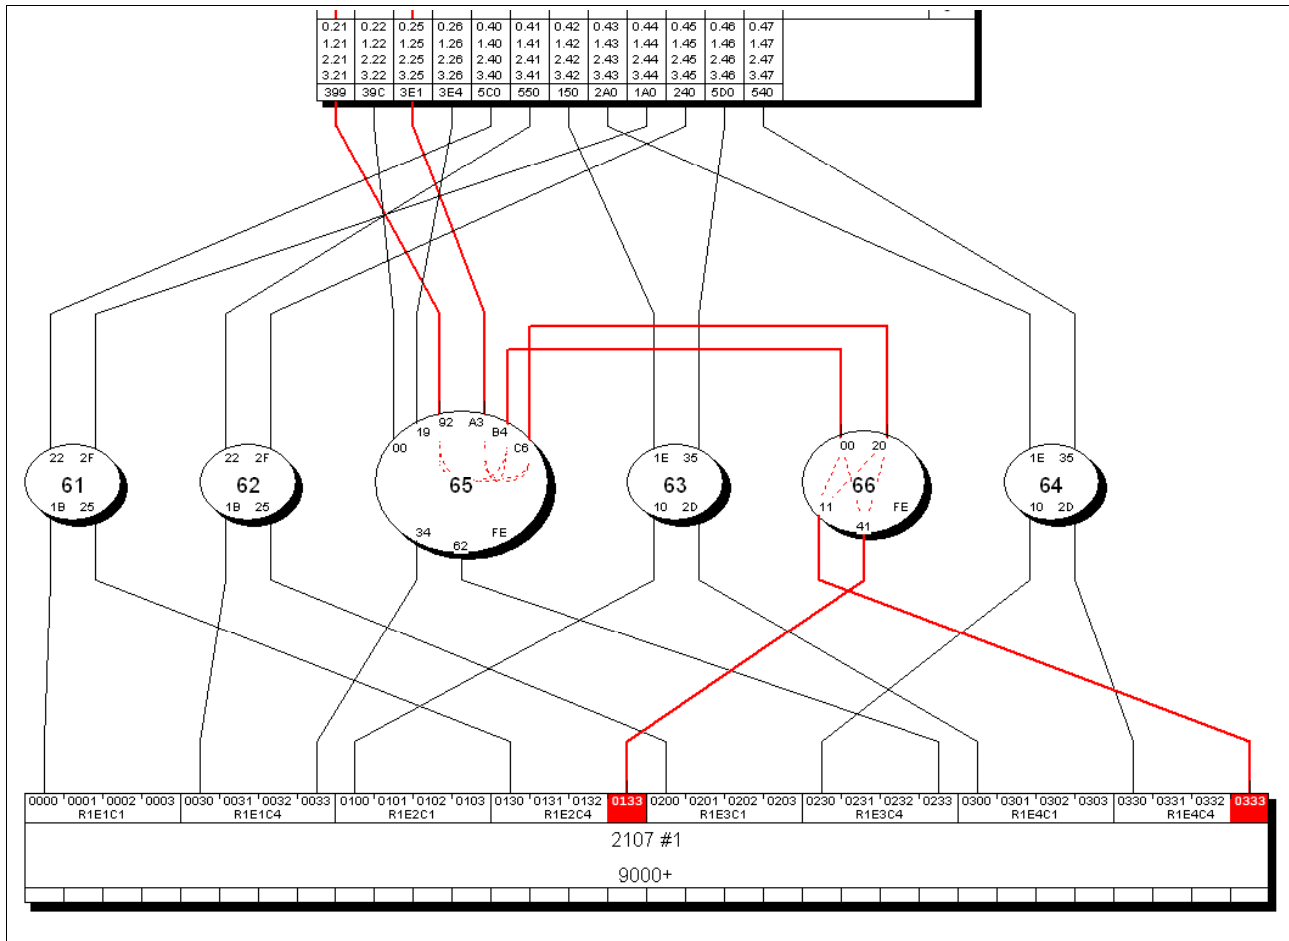

Figure 7-25 HCM DASD point-to-point connections
31. Click **OK** to return to the main HCM display and observe the new connections into interfaces 0133 and 0333. Refer to Figure 7-25 on page 217.